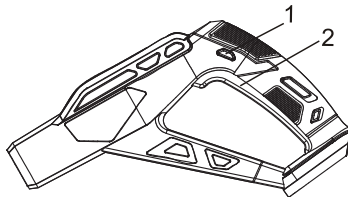

Fig. 9
1. Press the lock-off button (1) (Fig.9).
2. While continuing to press the lock-off button, squeeze the trigger switch (2).